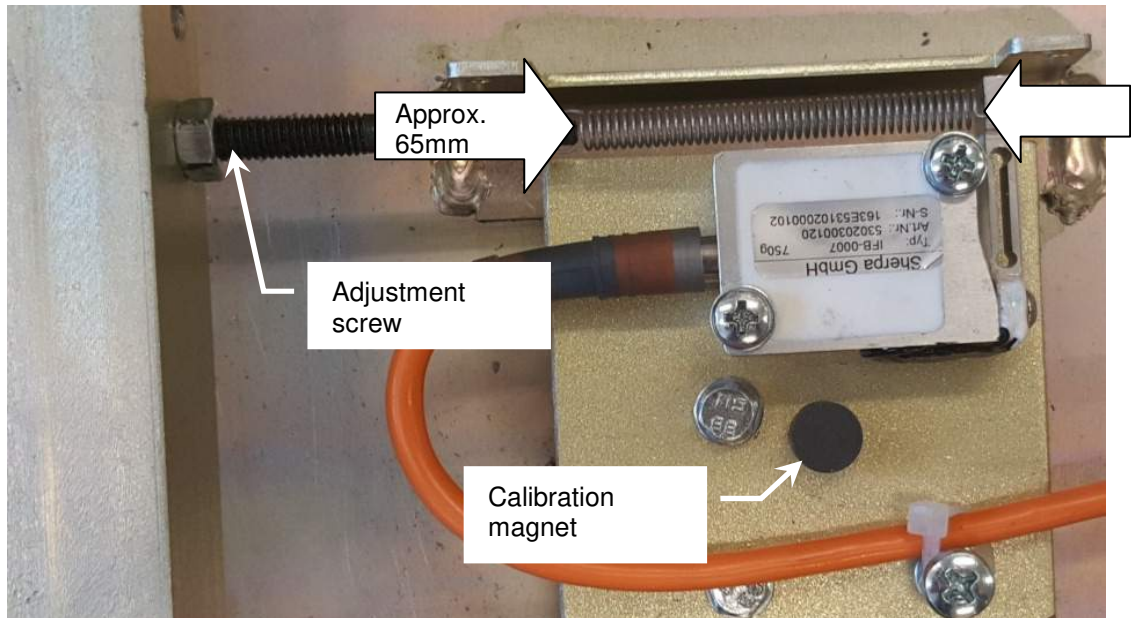

Figure 1: Adjusting the sensor
- When the plate is in the idle position, the tension spring for the attachment points on both sides must be adjusted to a length of approximately 65 mm using the adjustment screw. **(Figure 1)**